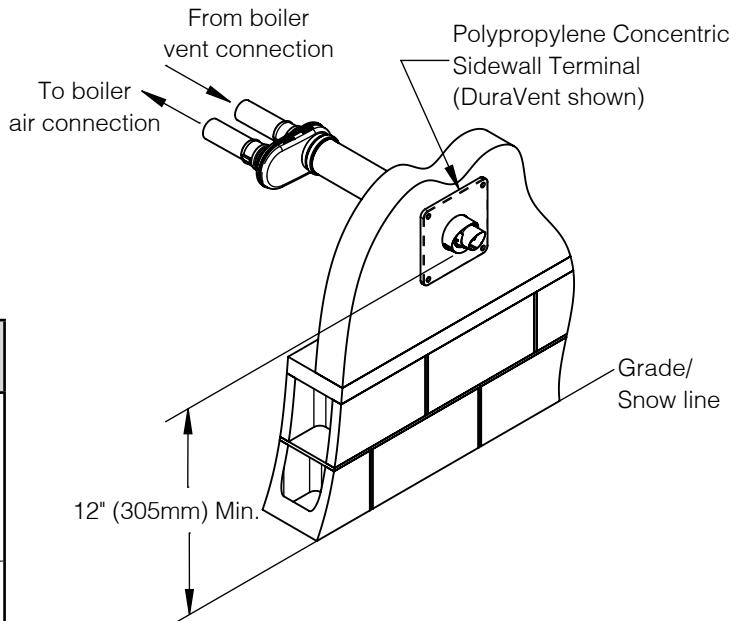

Figure 8-14: Polypropylene Concentric Terminal
1. Concentric terminals listed in Table 8-13 may be used to terminate air and vent outside building per Figure 8-14. Both air and vent pipes must attach to terminal kit.